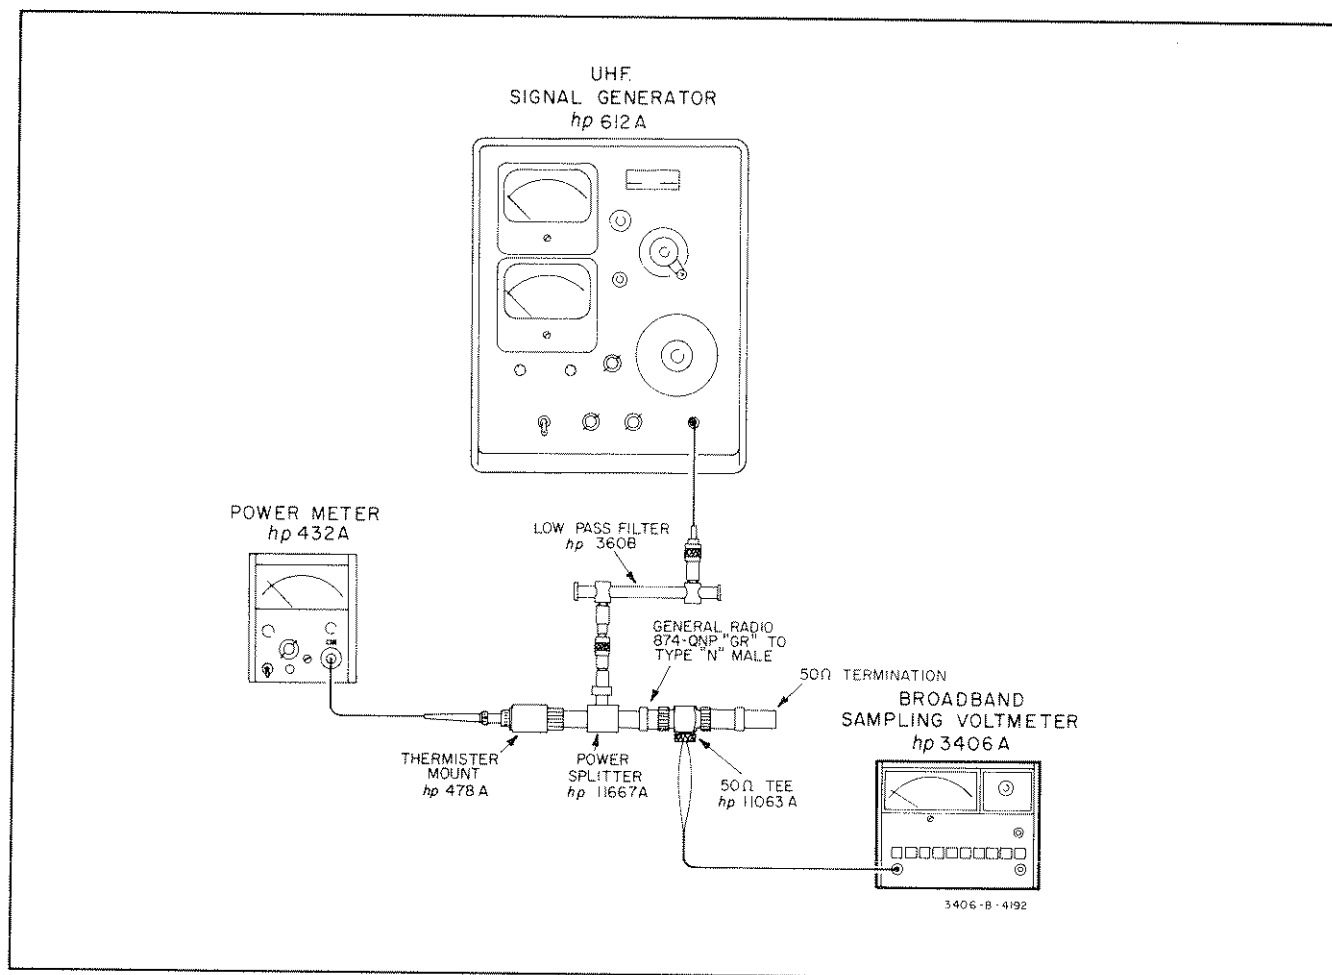

Figure 5-3. 700 MHz to 1.2 GHz Frequency Response Test Setup
5-12. The 700 MHz to 1.2 GHz accuracy check test setup is shown in Figure 5-3 and requires the following equipment:
- a. Connect the equipment as shown in Figure 5-3.
5-29. The test setup illustrated in Figure 5-3 is required for the frequency response adjustment.